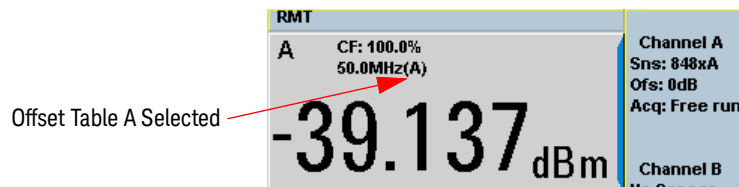

Figure 3-9 Frequency dependent offset indicator
- 4 Press  again to display the measurement screen. Figure 3-9 shows which offset table is selected.